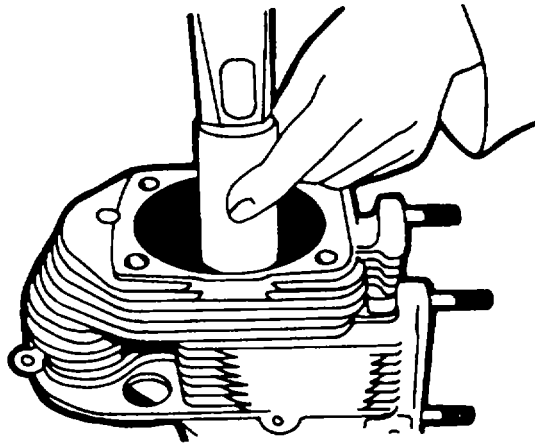

Figure 5-73. Seating New Valve Ring
- f. Heat the cylinder head uniformly in a heating cabinet or oven to a temperature of 428°F (220°C). Slip the new ring (available in oversizes) chamfered side first on the drift and seat it (use drift No. 003-0620 for exhaust valve, respectively, figure 5-73).